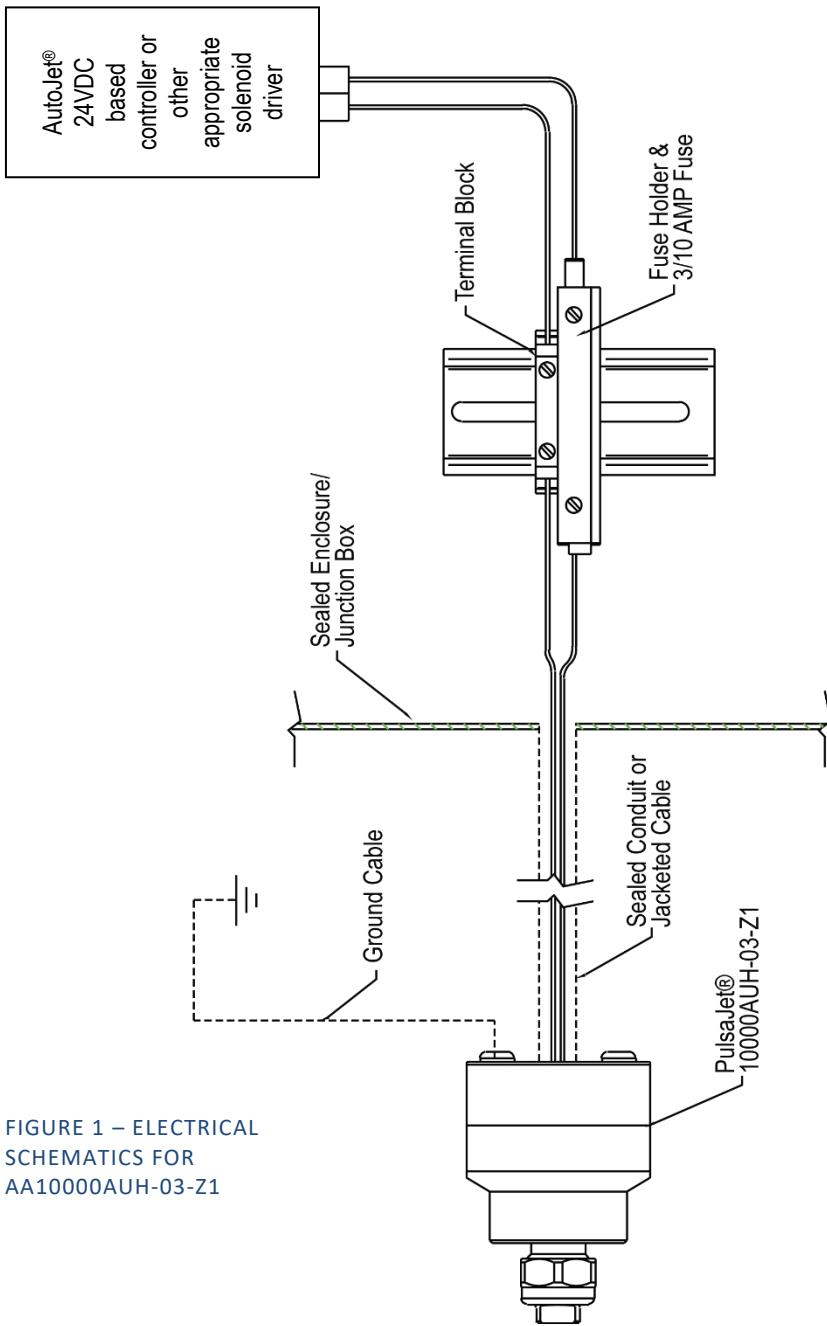

FIGURE 1 – ELECTRICAL
Electrical conduit connection for conduit fitting accepts 1/2" NPT (M) for NPT version. The conduit must protect the electrical cable from mechanical damage and terminate in a sealed enclosure or junction box appropriate for the hazardous location. For BSPT version, an Ex d rated cable gland is used with cable. The fuse holder and a 3/10-amp fuse should be used as shown in Figure 1. The ground connection of the Pulsajet® 10000AUH-03-Z1 must be attached to a true ground.